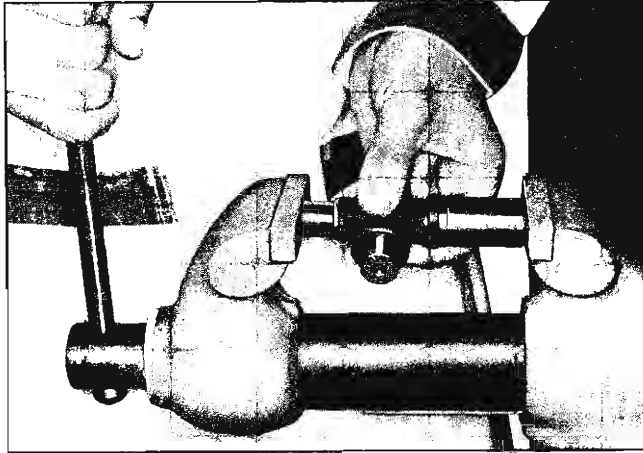

Fig. 57—"U" Joint Trunion Seal Installation
- Place new dust seals on trunnion finger - cavity of seal toward end of trunnion - then position Tool J-21548 over end of trunnion and into cavity portion of seal. Press seal onto trunnion until tool bottoms against trunnion finger (fig. 57).